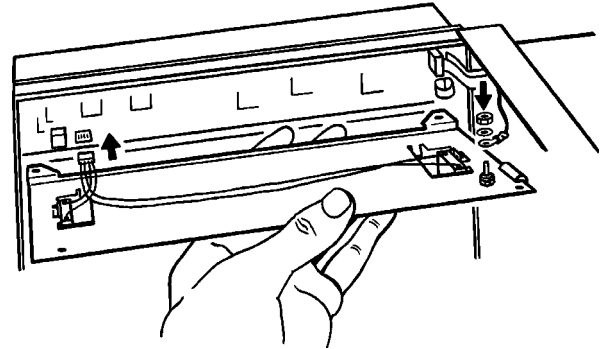

Figure 4.9.2d Connect earth and lamp loom
7. Referring to figure 4.9.2d, use the nut and washer, previously removed, to secure the earth loom to the new cover plate. Plug the 4-way connector onto its mating half on the display board.